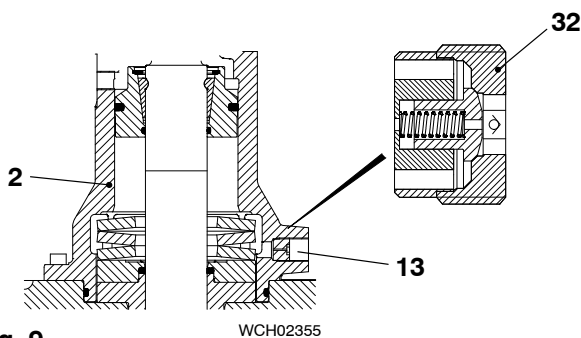

Fig. 9
- 1) Do a check of the non-return valve (32, Fig. 9) as follows:
- a) Remove the non-return valve (32) from the housing (2).
- 2) Install the non-return valve (32) to the housing (2).